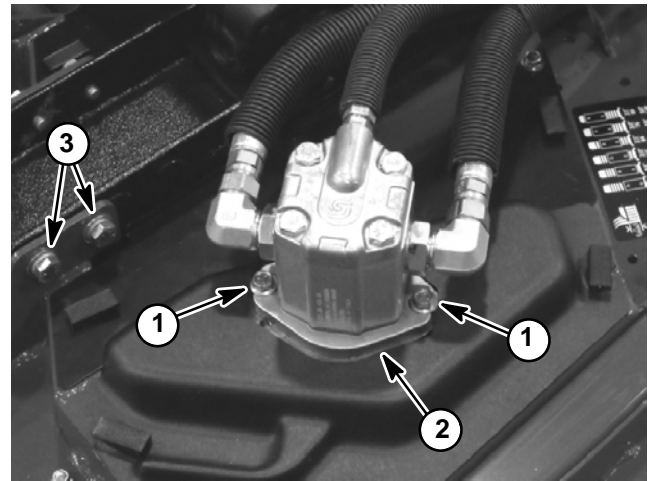

Figure 6
4. Remove eight (8) cap screws, lock washers and flat washers that secure deck mount to cutting deck (Fig. 6).
4. Install deck mount to cutting deck with (8) cap screws, lock washers and flat washers (Fig. 6). Tighten fasteners.